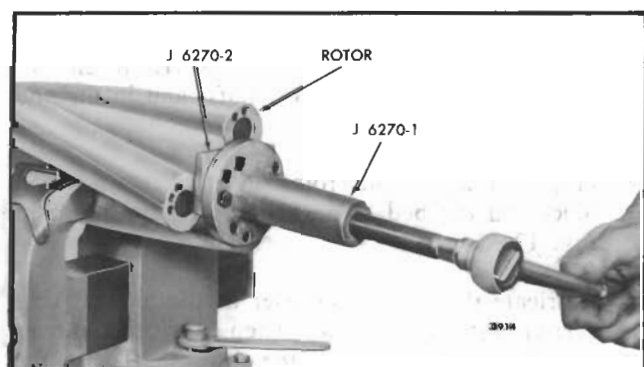

Fig. 8 - Removing Oil Seal Ring Carrier from Blower Rotor Shaft (Turbocharged Engine Blowers)
- c. Refer to Fig. 8 and place the seal ring carrier remover adaptor J 6270-2 over the carrier. Make sure the adaptor is seated in the groove of the carrier.
- f. Turn the puller screw clockwise and pull the oil seal ring carrier and roller bearing inner race (front end of blower rotors only) from the rotor shaft (Fig. 8).